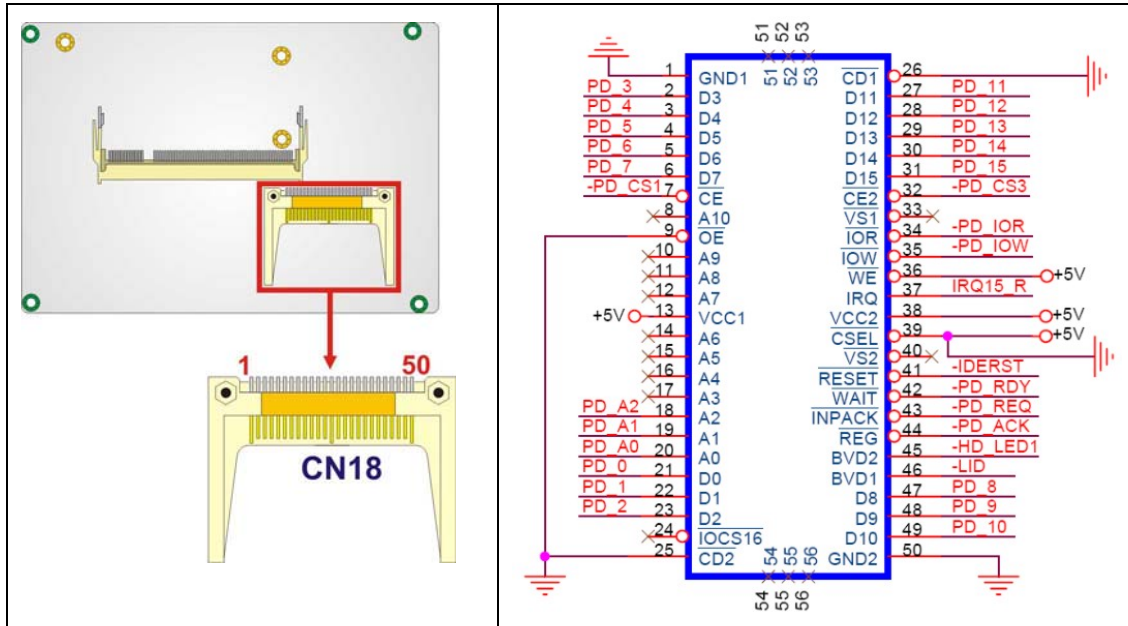

Figure 4-6: CF Card Socket Location
- CN Location:** See **Figure 4-6**